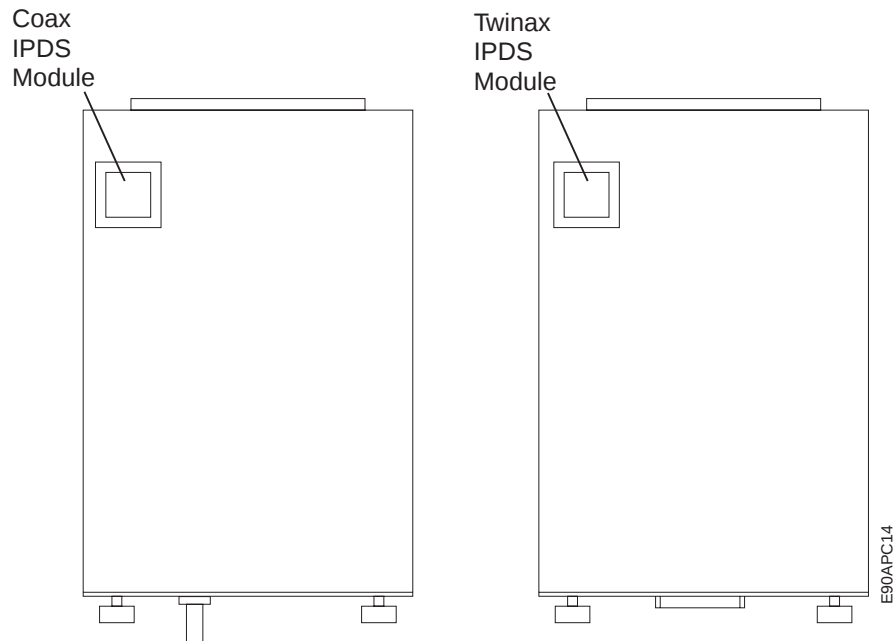

Figure 108. Location of IPDS modules on coax and twinax attachment cards
1. Power off (O) the printer.
4. Figure 108 on page 362 shows the location of the module socket used to enable the IPDS feature.